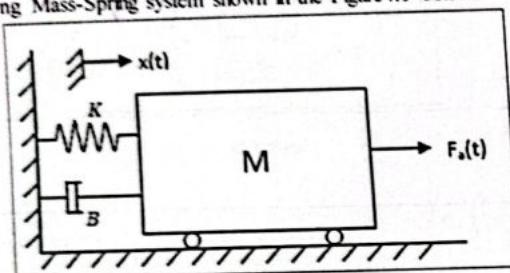

Figure 4.1
Consider the following Mass-Spring system shown in the Figure 4.1 below.
- a) Derive the second order differential equation of the mass-spring system shown in Figure 4.1 and write it down in the space below: